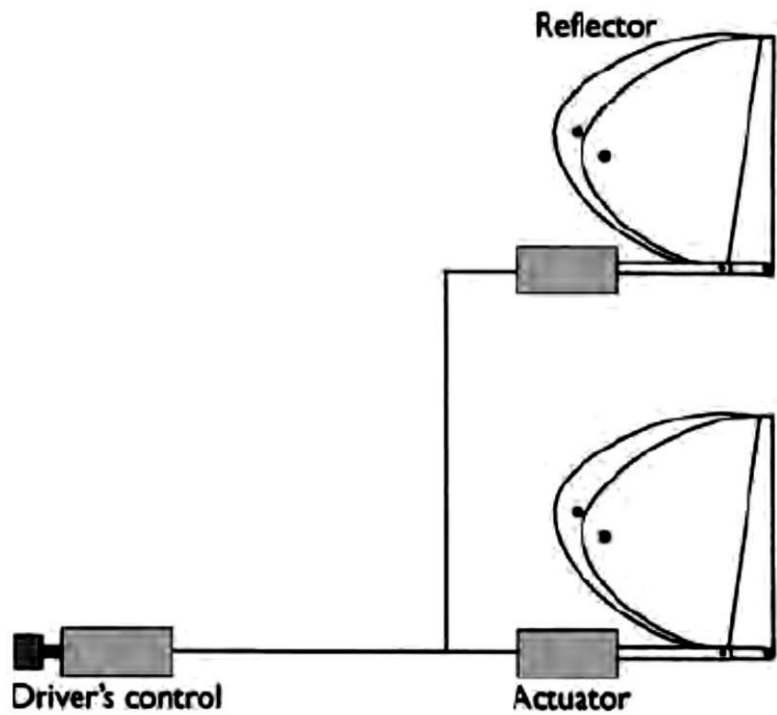

Figure 11.8 Manual headlight levelling
- The principle of headlight levelling is very simple, the position of the lights must change depending on the load in the vehicle. Figure 11.8 shows a simple manual aiming device operated by the driver.